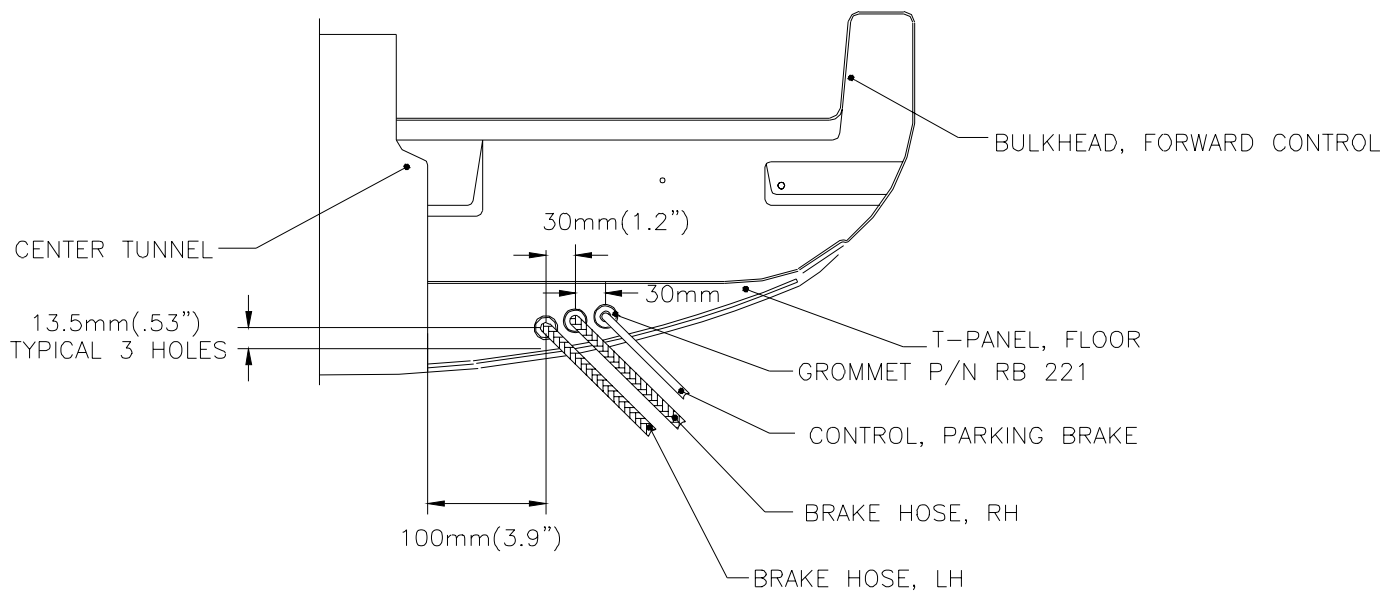

Figure 2
- 10.14 Drill the three ½ inch diameter holes in the right side of the tee panel as shown in figure 2.